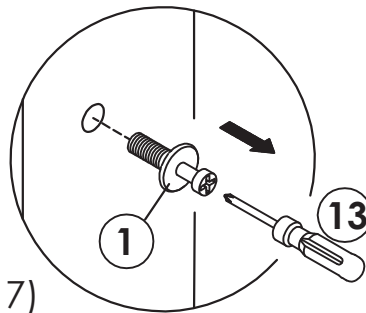

FIG 17.
You will need to first loosen the base screw (10) with allen key (12) fig 18. Then you will need to remove the (4) bolt from the dropside and lift the dropside of the nails. Then you should uncrew the nail (fig 17) then tighten the base with the (10) bolts using allen key (12)